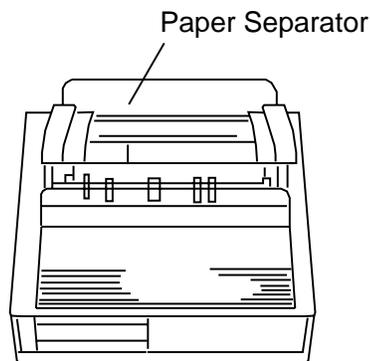

Figure 9-3. Model 602 Paper Separator
3. Grasp the front edge of the paper separator and pull up to access the tractors. See Figure 9-3.